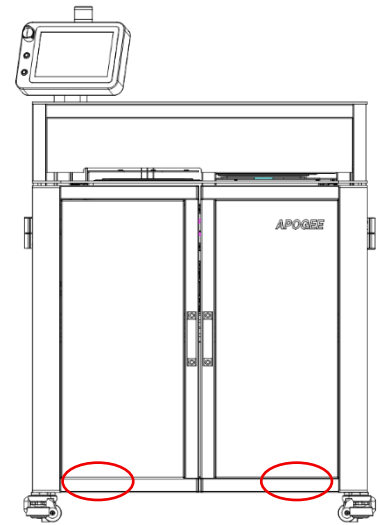

Figure 7 Fork Points
1. Carefully remove the sides from the crate. Lifting the unit from the crate base by forking at the points shown in Figure 7, Do not lift by any of the top covers or protrusions. Do not roll or turn the unit on its sides.